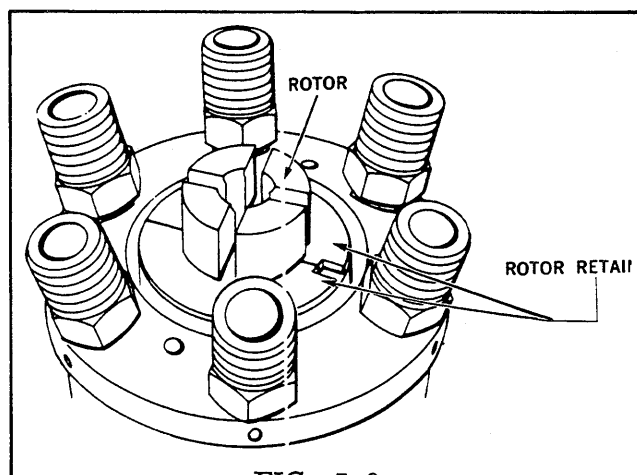

FIG. 5.9
STEP 9 Insert the two rotor retainers between the rotor and head. Position the retainers so the cutout portion is over the hole which the regulator assembly roll pin enters (Fig. 5.9).